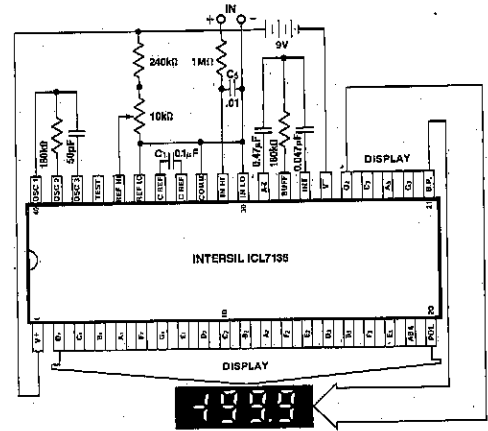

Figure 2. Clock Frequency 48kHz (3 readings/sec)
**Note 6:** 48kHz oscillator, Figure 2, increases current by 20 $\mu A$  (typ).